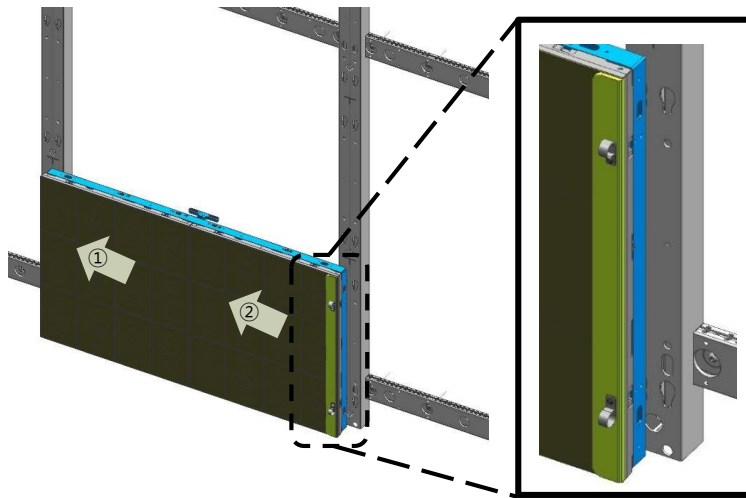
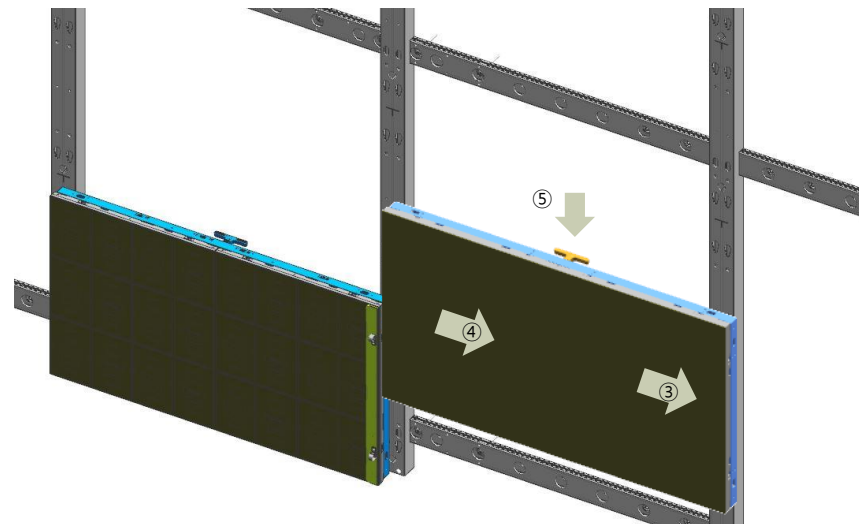

Fig.1 Attachment the edge protection Jig
Fig.2 Installing 2nd stage of the cabinets
- Push the ① and ② modules to the side.
- Attach the edge protection jig V to the corner. (Fig.1)
- Push the module ③ and ④ of the cabinet to be installed in the opposite direction.
- Be careful not to collide with the modules. Slide the cabinet as shown in ⑤. (Fig.2)